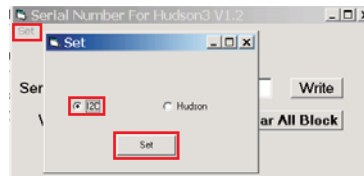

Fig.28
- Set I2C bus (press the left-top button of operating window) as shown in Fig.28, then press " SET" button.